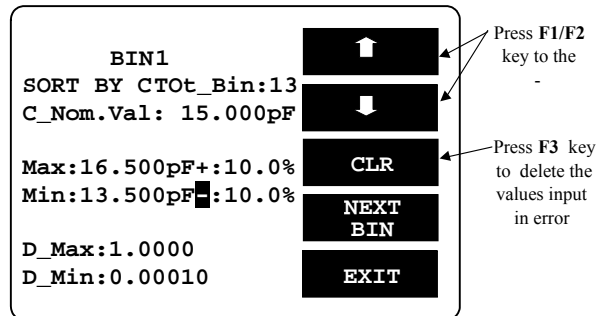

Figure 8-20
- Press **↓** key. Please refer to Figure 8-20 below.